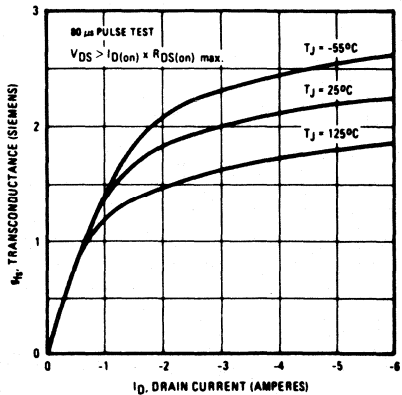

Fig. 5 - Typical transconductance vs. drain current.
3. Repetitive Rating: Pulse width limited by max. junction temperature. See Transient Thermal Impedance Curve (Figure 5)